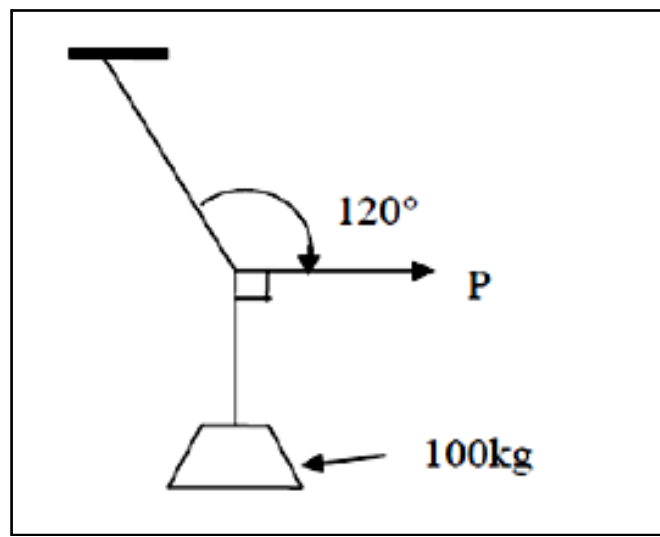

Fig.1
2. (a) Determine the magnitude of force 'P', required for a 100 kg mass in the position as shown (Fig.1) below via strings of negligible mass.